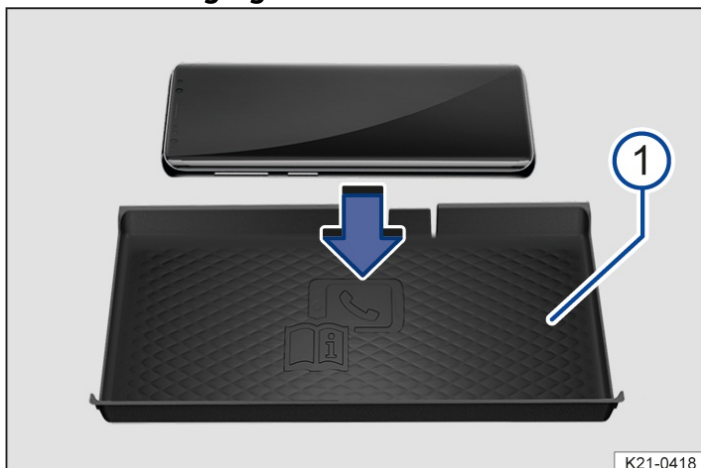

Fig. 1 Illustration: stowage area with mat for wireless charging
The stowage area with lining mat → Fig. 1 ① for the wireless charging function is located either in the centre console or in a stowage compartment in the area between the front seats depending on the vehicle.
In some vehicles, the lining mat → Fig. 1 ① has a telephone symbol that marks the centre position of the wireless charging function. The symbol on the lining mat may look different in some vehicles.